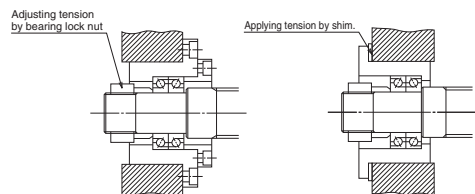

Fig. 1.2 Bearing structure to provide pre-tension
- Set pre-tension. (Fig. 1.2)
(3) How to determine specified travel
Fig. 1.2 shows the bearing support structure in such occasion.